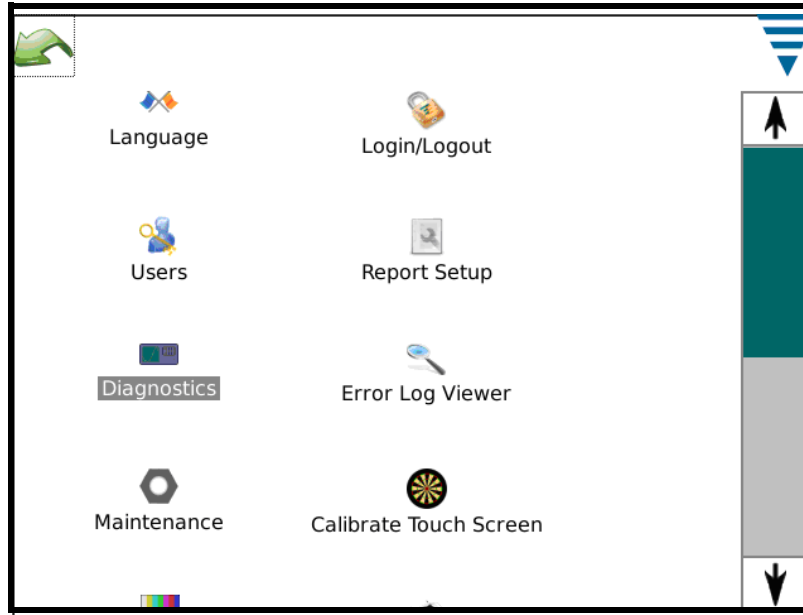

Figure 12
2. Scroll down and touch the “Diagnostics” icon as shown in Figure 12.